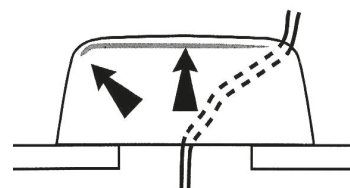

Fig. 4
- Centre it on the hole (Fig. 4).
- The wiring can be passed through the ventilation holes (Fig. 4).